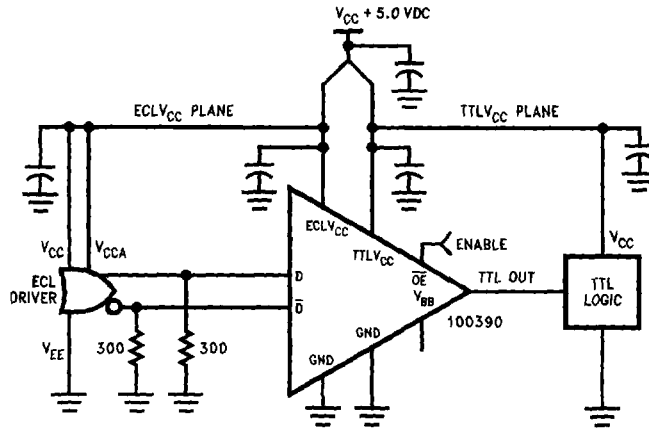

FIGURE 4
1. Device performance will be enhanced by the use of dual V_{CC} power planes as illustrated in the Application Figures 4 and 5. This will minimize the coupling of TTL switching noise into the primary reference to the ECL circuitry and take full advantage of the 100390's on chip V_{CC} partitioning.
6. Figure 4 illustrates typical differential input operation.